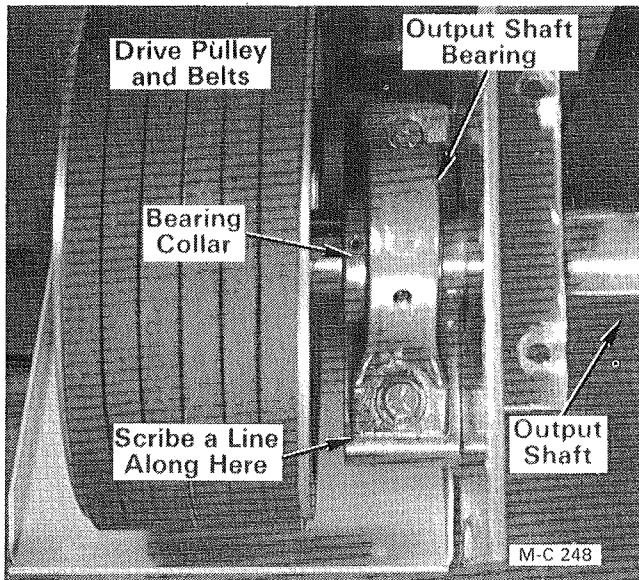
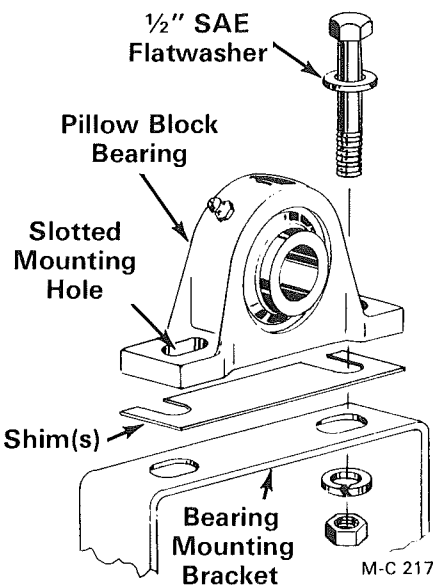

Figure 43
Figure 44
4. Scribe a line on the output shaft bearing mounting bracket as shown in Figure 43 page 24 to establish the location of the new bearing when reassembling.
5. Remove the two set screws in the bearing lock collar, two capscrews, flatwashers, lockwashers and hex-nuts securing the output shaft bearing. Loosen the output shaft center bearing cap screws. Lift up on the output shaft and remove the shims from under the output shaft bearing, see Figure 44 page 24.
10. Lift up on the output shaft and place the shims on the output shaft bearing mounting bracket, see Figure 44. Install the capscrews, SAE flatwashers, lockwashers and hex-nuts. Align the edge of the output shaft bearing with the mark scribed on the mounting bracket made in step 4, see Figure 43. Tighten the output shaft bearing capscrews and two set screws in the bearing lock collar. Tighten the center bearing capscrews.
3. Scribe a line on the output shaft outer bearing mounting bracket to establish the location of the bearing for reassembly, see Figure 43. Remove the two capscrews, flatwashers, lockwashers and hex nuts securing the output shaft bearing to the bearing mount.
10. Lift up on the output shaft and place the shim(s) that were removed in disassembly on the outer output shaft bearing mounting bracket, see Figure 44. Install the capscrows, SAE flatwashers, lockwashers and hex-nuts. Align the edge of the output shaft bearing with the mark scribed on the mounting bracket made in step 3, see Figure 43. Tighten the output shaft bearing capscrows.